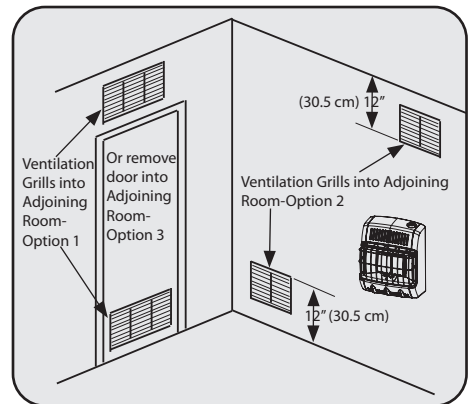

Figure 2
- Rework worksheet, and the space of an adjoining room. If the extra space provides an unconfined space, remove door to adjoining room or add ventilation grills between the rooms. See Ventilation From Inside Building (Fig. 2)
This fresh air would come from an adjoining unconfined space. When ventilation to an adjoining unconfined space, you must provide two permanent openings: one within 12" of the ceiling and one within 12" of the floor on the wall connecting the two spaces (see options 1 & 2 of figure 2). You can also remove door into adjoining room (see option3, fig 2). Follow the National Fuel Gas Code NFPA 54/ ANSI Z223.1, Section 5.3, Air for Combustion and Ventilation for required size of ventilation grills or ducts.